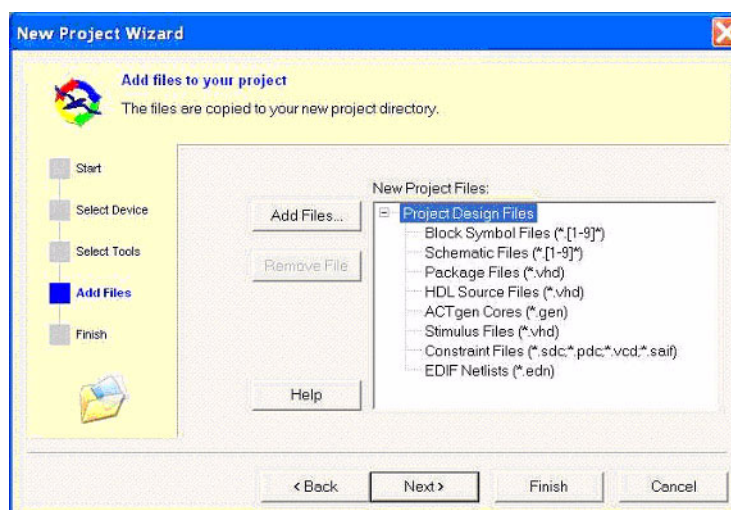

Figure 7-6. Add Files in the New Project Wizard (Libero IDE)
12. Click **Add Files** in the New Project Wizard to add existing project design files. Include any ACTgen cores, Block Symbol Files, Schematic Files, VHDL Packages, HDL Source Files, Implementation files, and Stimulus Files (Figure 7-6).